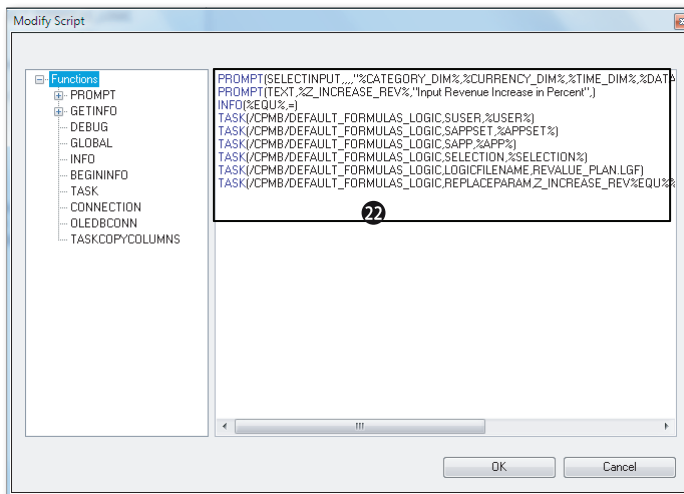

Figure 6.14 Creating Logic Script to Revalue Plan Data—Part K
13. Enter the following code, which is also shown in Figure 6.14, ⑫.